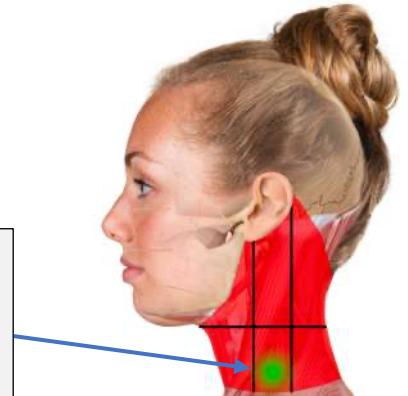
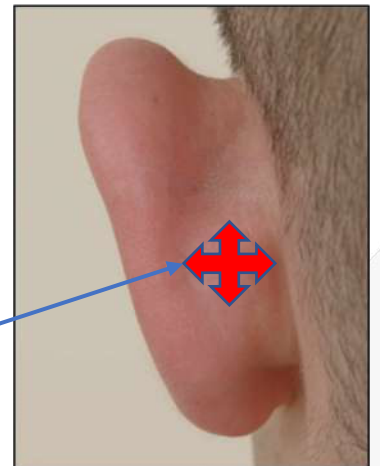

Figure 7
Figure 8
2. The application sites (Figure 7 and Figure 8) should be as clean as possible. Prepare the ear and neck by cleaning the skin with an alcohol square, or a damp cloth, and then drying to the touch.
Remove the backing from the ECG electrode adhesive and place on the soft tissue at the bottom of the left side of the neck (Figure 7) and directly below the ear canal. This is the “Sempulse Point” directly below the ear canal in most people. It is a point of soft tissue with a very spongy feel near the base of the neck. Around this point you will feel bones or muscle, but there is a distinct 1-2” wide pocket in-between the Middle and Anterior Scalene muscles and above the Trapezius muscle. Leave enough cable length to comfortably reach the ear.
Place the base unit ECG electrode adhesive on the green-highlighted area in the picture. (Figure 7). The ideal location is such that the base unit is furthest from the ear but still allows enough cable for the ear sensor to reach the back of the ear. See Figure 9 for the base unit correctly placed with its ECG electrode adhesive for reference.
3. Locate the cavum concha (Figure 8) – Place left index finger in left ear canal at a 90-degree angle and then bring the thumb to meet the index finger on the back of the ear. The application site is the posterior cavum concha, where the thumb is touching the back of the ear. Adhere the ear sensor using a Sempulse ear adhesive or medical tape to secure the ear sensor on all sides by pressing it firmly to the skin. Proper application without excessive pressure is important.
- Halo cannot be used in any other locations except the back of the Cavum Concha (Figure 8) for the ear sensor and the same side of the neck at the "Sempulse Point" (Figure 7) for the base unit or the readings and values cannot be relied upon and do not meet any of the accuracy or specifications provided.